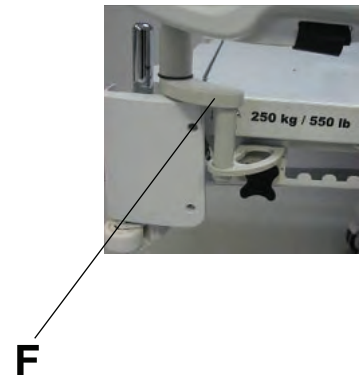

Figure 1-128: Installing the tray support
4. Install the tray support pole into the bracket (F) and into the socket at the head end or foot end of the product (Figure 1-128 on page 1-109).